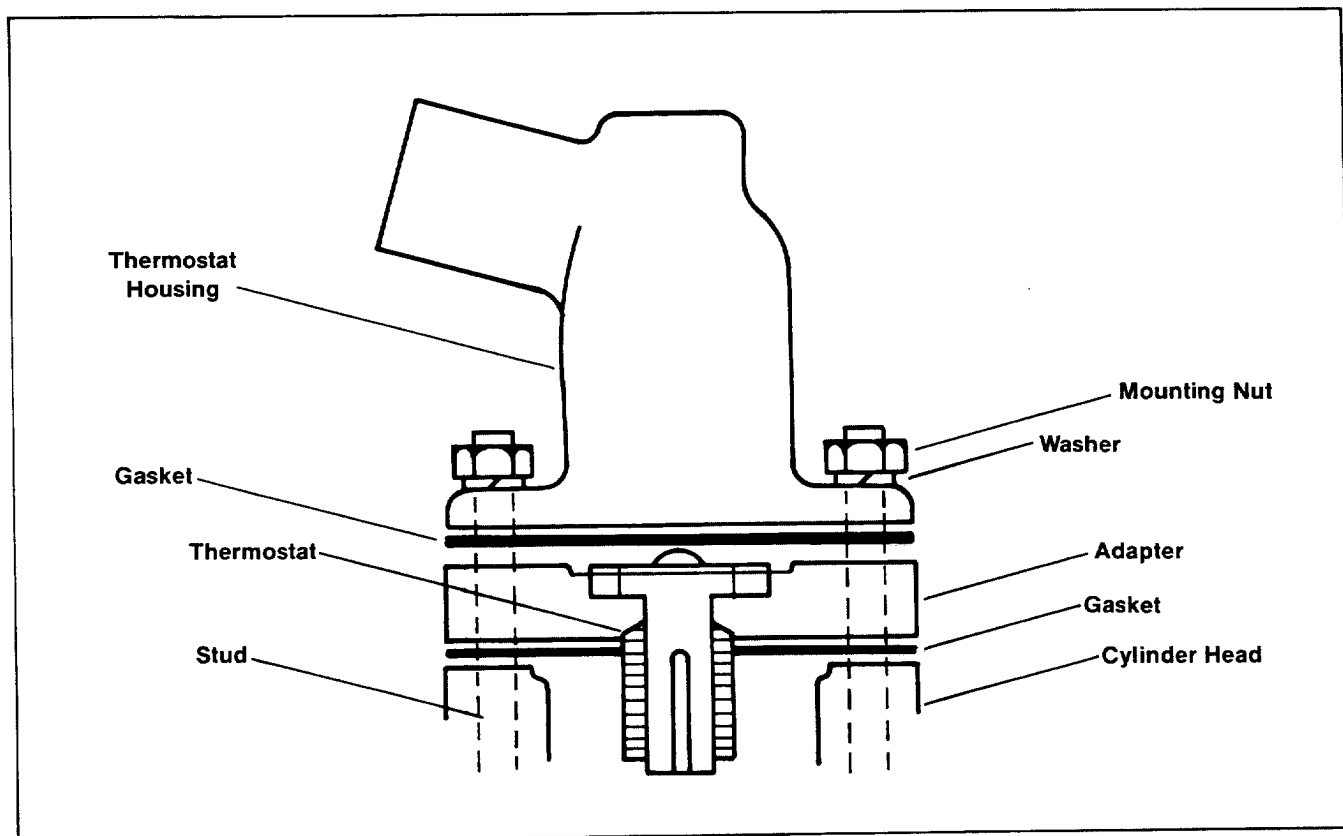

Figure 3. Thermostat Housing Assembly
12. Position outlet gasket 240160 over the cylinder head opening. The outlet adapter (recessed side up) is sandwiched between this gasket and the second outlet gasket provided with the kit. See Figure 3. Position the new 170°F thermostat in the recessed opening of the outlet adapter before installing upper gasket. Replace thermostat housing. Install washers X-25-93 and mounting nuts X-83-1. Torque to 260 in. lbs.